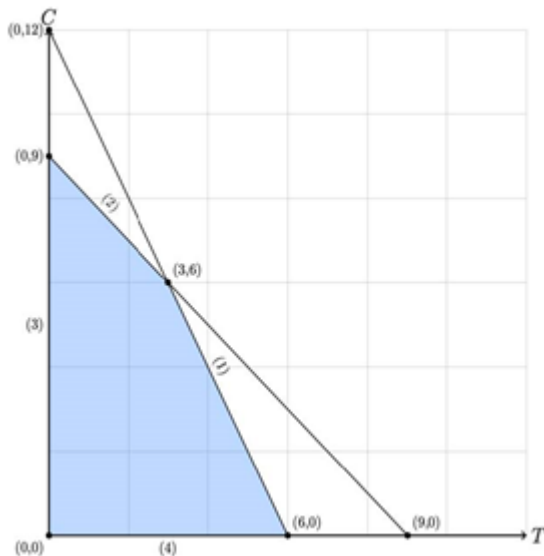

Figure 8
Let's graph this feasible region of the Legos problem to see where all of these points reside in Figure 8.
Notice that our process of solving every linearly independent pair of equations resulted in all of the corner points, or basic feasible solutions, of the Legos LP, but it also resulted in two other points: (0,12) and (9,0). We can see in Figure 8 that these two points are at the intersections of two constraint boundaries, but they are not in the feasible region. We can see both geometrically and algebraically that (9,0) violates constraint (1) and (0,12) violates constraint (2).